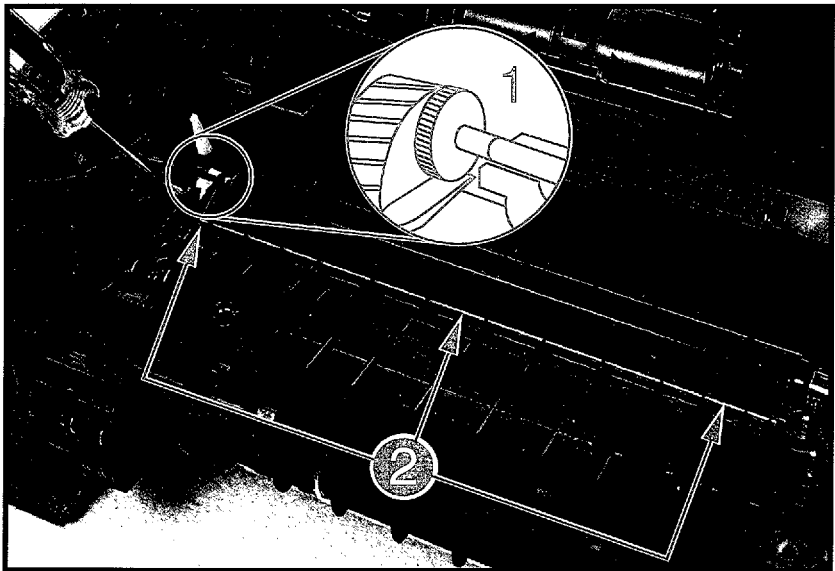

Figure 6-25 Replacing the Transfer Roller
2. Using a flat-blade screwdriver, gently pry under the left end to lift the roller shaft upward (Figure 6-25, callout 1).
Install the right end first. Ensure that the tabs are seated firmly in place below the plastic guide (Figure 6-25, callout 2), and push the Transfer Roller into place.
The Transfer Roller Bushings are located under the left and right ends of the Transfer Roller (refer to Figure 6-25). It is not necessary to remove the Printer Cover to replace the bushings.
2. Remove the Transfer Roller (Figure 6-25).
3. Remove the (1) self-tapping screw and lift the bushing straight out (the same procedure applies for both the left and right bushings).